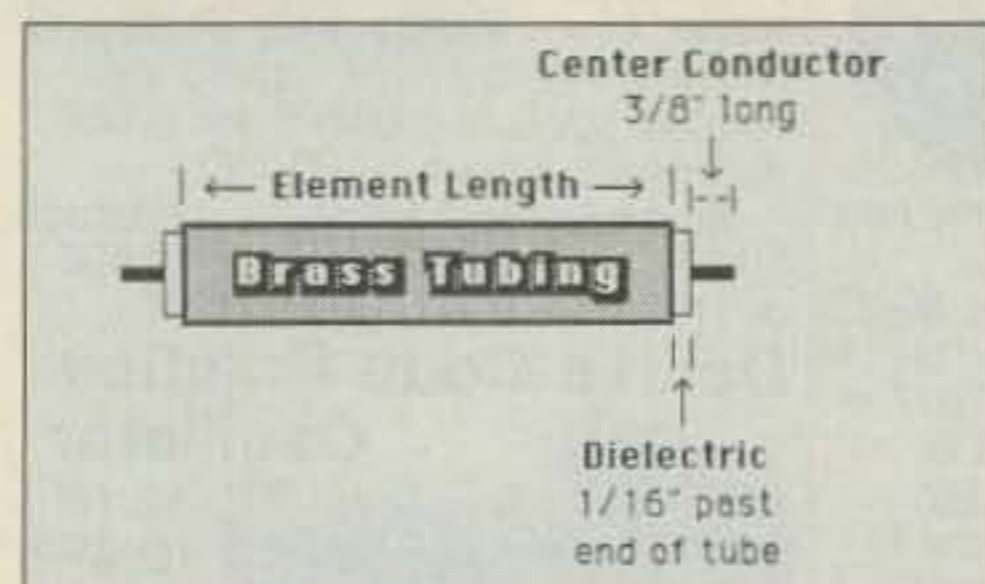

Figure 1. Element preparation.
Step 5. Using a knife, cut the dielectric so that it sticks out $\frac{1}{16}$ " past each end of the brass tube. This should leave approximately $\frac{3}{8}$ " of the center conductor exposed on each end. See Figure 1.